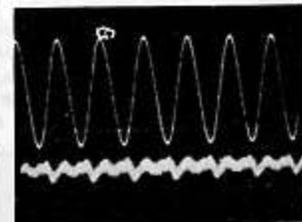

Fig. 2.
- Fig 2. Power amplifier only. 10kHz, 10W, 8Ω, 0.004% No crossover.